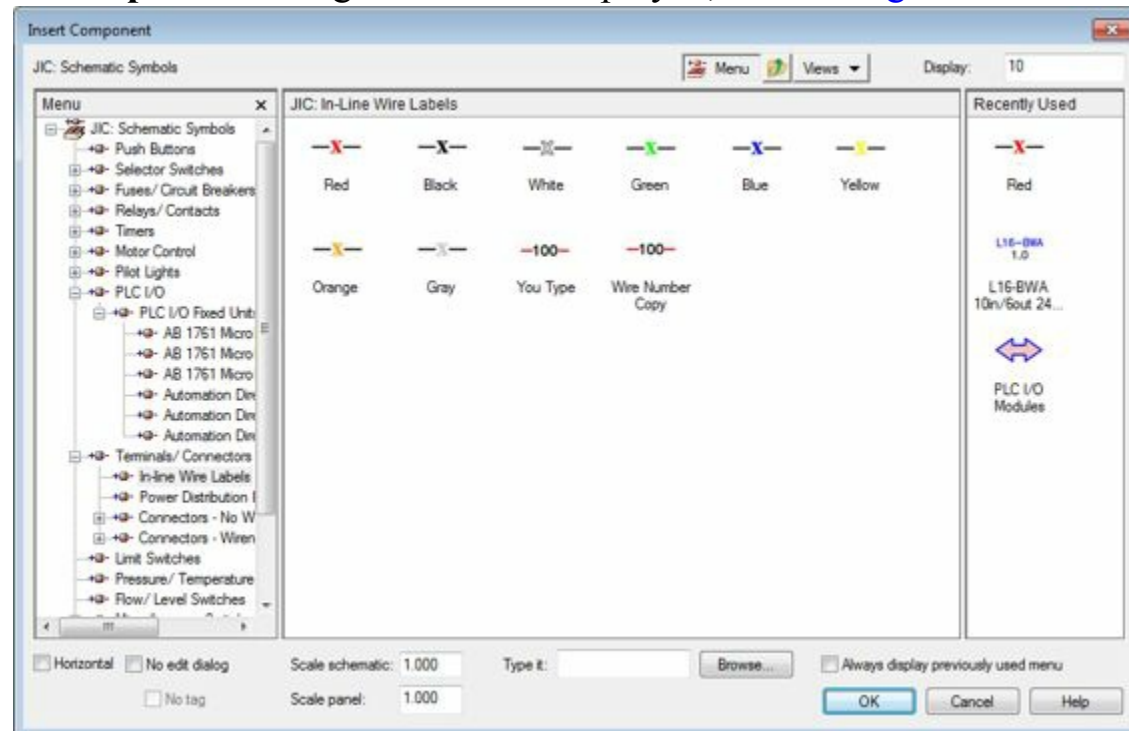

Figure-38. Insert Component dialog box
- Click on the **In-Line Wire Labels** tool from the **Wire Number Leader** drop-down. The **Insert Component** dialog box will be displayed; refer to Figure-38.